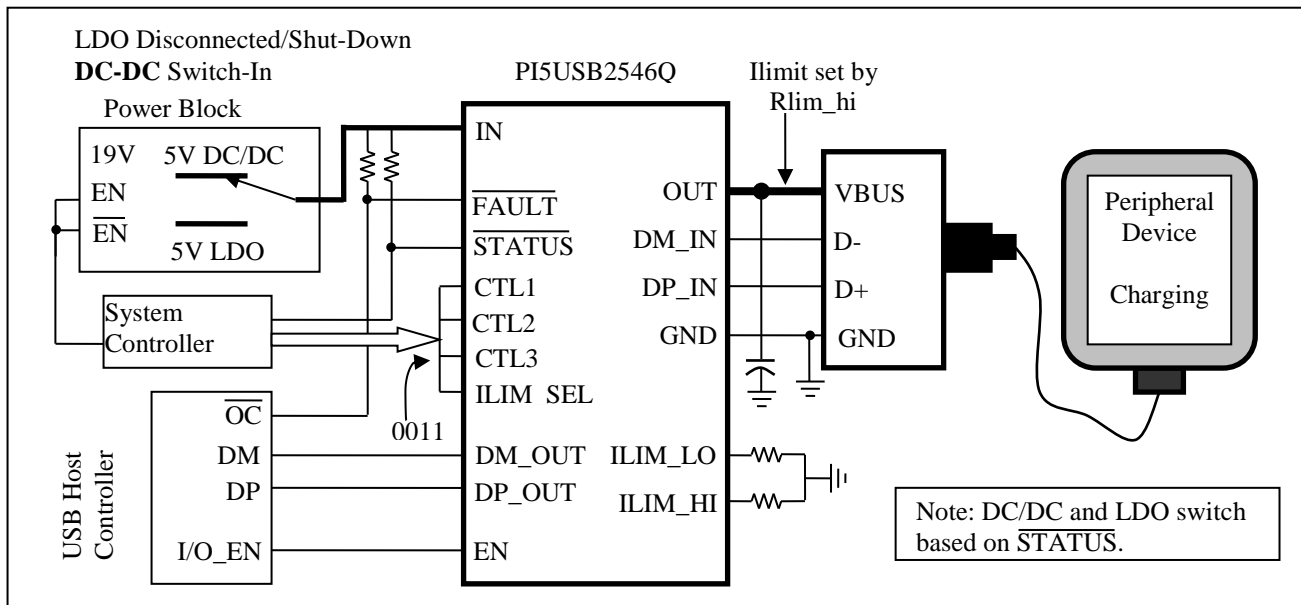

Figure 7, Case 1: System in S4/S5, Device Charging
Following Power Wake flow chart when a device is attached and draws >55mA of charging current the PI5USB2546Q will hit its internal current limit. This will trigger the device to assert /STATUS (LO) and turn on the DC-DC converter and turn off the LDO. PI5USB2546Q will discharge OUT for >2s (typ.) to allow the main power supply to turn on. After the discharge the device will turn back on with current limit set by ILIM_HI (Case 1, Figure 7)